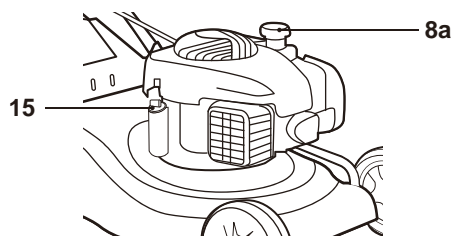

Fig. 8
- Unscrew and remove the fuel tank cap (8a) (Fig. 8).